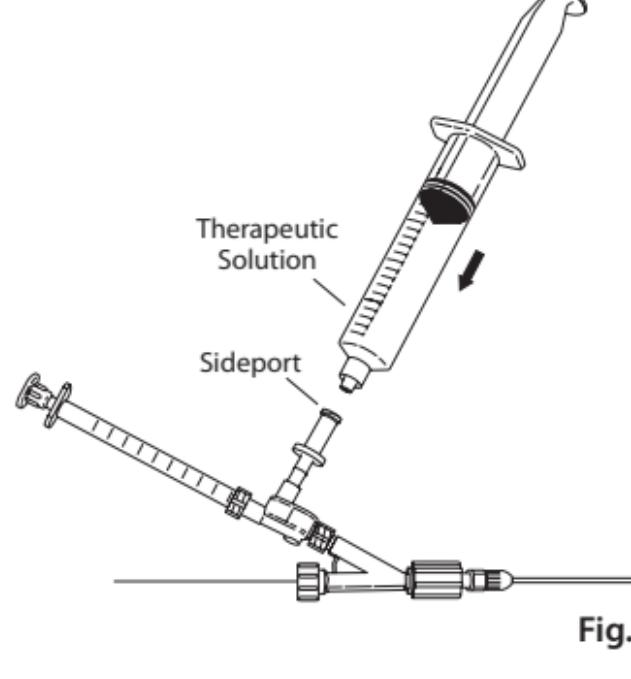

Fig.7
- To start the procedure for desired administration of therapeutic solution, remove the 20 mL syringe with heparinized saline solution, leaving a meniscus of solution on the sideport fitting. Before attaching another fluid-filled syringe to the sideport, make sure all air bubbles are purged. Reattach with a therapeutic solution-filled syringe. (**Fig. 7**)